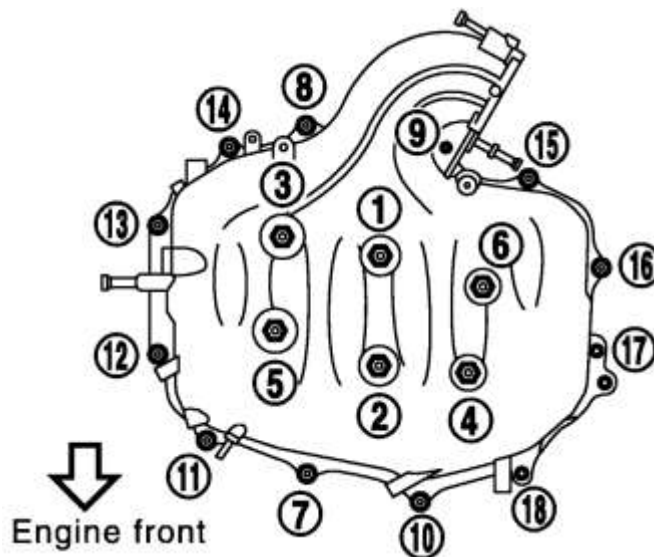

Figure 25
11. Loosen the Upper Plenum Mounting Bolts in reverse order as shown below. It is recommended to NOT remove the bolts from the Upper Plenum but instead unscrew them from the Lower Plenum and leave them in their respective spots inside the Upper Plenum. The bolts vary in length depending on location. If you remove the bolts completely, ensure you are keeping track of where they were. *Figure 25.*